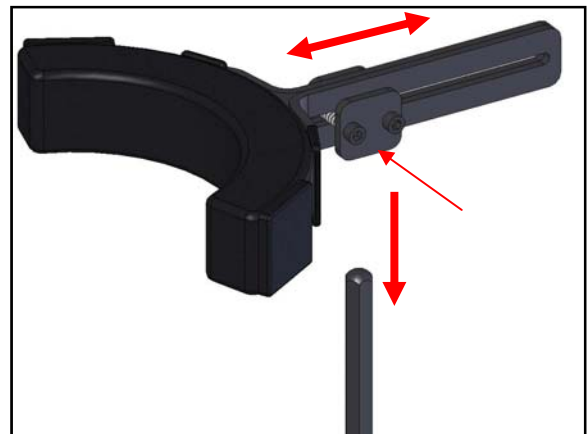

Figure 26
1. To mount the Neck rest, first remove the headrest pad. Do this by loosening the two Allen screws securing it to the vertical hex bar coming out of the top of the column. (1)
2. Then, slip the Neck rest onto the top of the bar as shown in Figure 26.